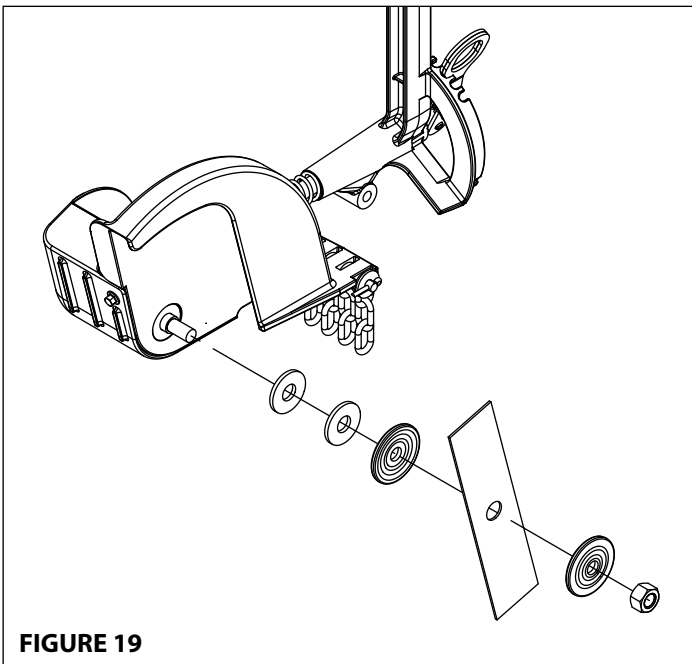

FIGURE 19
3. Loosen the nut holding blade in place. Remove the nut and clamp washer. **See Figure 19.**